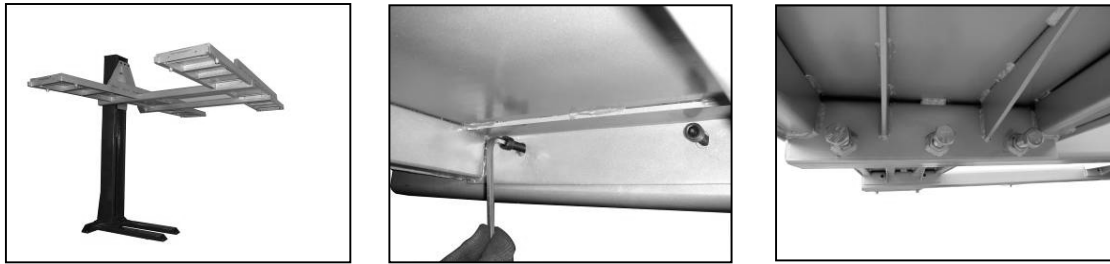

Figure: 10-A, B, C Fastening the carriageway
- 12) Fit the runways to the stabilisers. As these are difficult to move, you should use a suitable lifting tool for support. Position the track platforms according to the fixing holes on the stabiliser arms. Then screw the carriageway to the stabiliser arms using the adjusting and clamping screws. (Fig. 10-A, B, C)